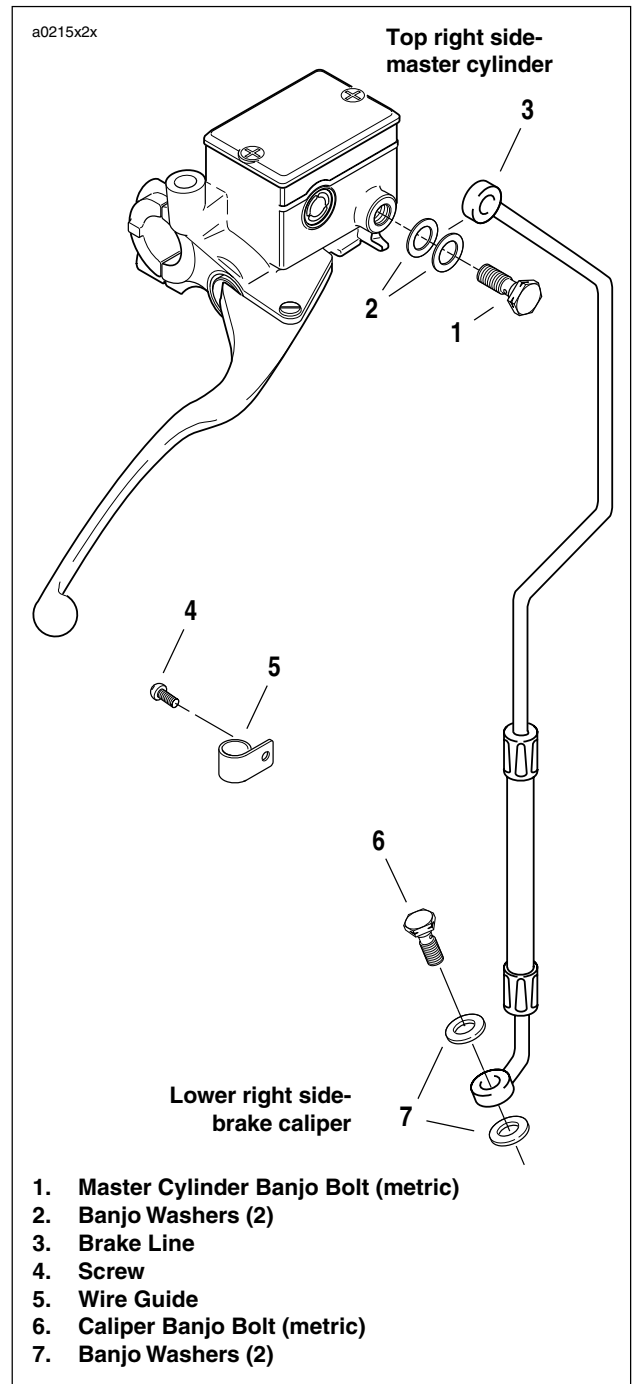

Figure 2-41. Front Brake Line
2. See Figure 2-41. Remove screw (4) to detach brake line clamp (5) from right side of lower triple clamp. Remove brake line from wireform.
1. See Figure 2-41. Connect brake line to master cylinder using two **new** banjo washers (2) and banjo bolt (1) (metric). Loosely install bolt into master cylinder.
2. From the master cylinder, the brake line runs downward in front of the right handlebar, where it turns inboard at the upper triple clamp. Loosely install clamp (5) with screw (4) to attach front brake line to right side of lower triple clamp. Position brake line in wireform.
3. Connect brake line to caliper using two **new** banjo washers (7) and banjo bolt (6) (metric). Tighten banjo bolt (6) to 16-20 ft-lbs (22-27 Nm).
4. Tighten clamp screw (4) on lower triple clamp to 3-5 ft-lbs (4-7 Nm).
5. Tighten master cylinder banjo bolt (1) (metric) to 16-20 ft-lbs (22-27 Nm).